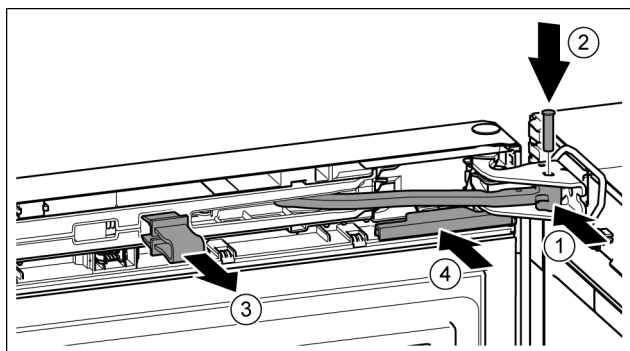

Fig. 42
- ▶ Turn the hinge in the bearing bracket. *Fig. 42 (1)*
- ▶ Insert the bolt in the bearing bracket and hinge. Make sure that the catch mechanism is sitting correctly in the groove. *Fig. 42 (2)*
- ▶ Remove the locking device. *Fig. 42 (3)*
- ▶ Slide on the cover. *Fig. 42 (4)*